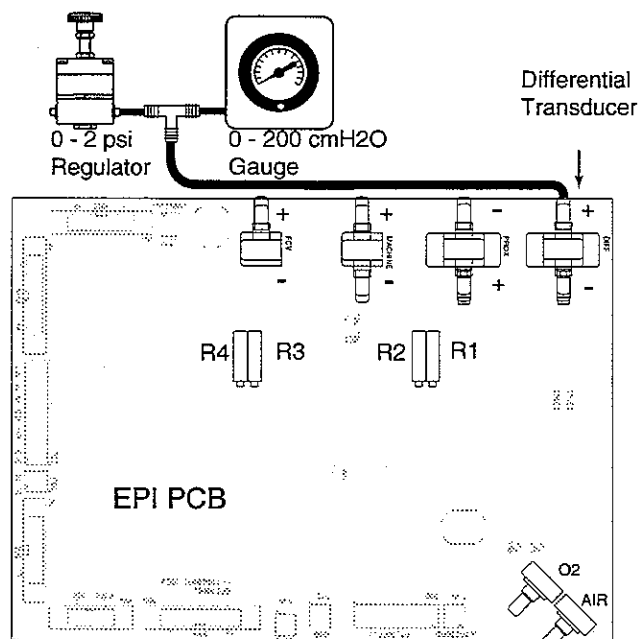

Figure 5-4
7. Connect the Differential Transducer as shown in Figure 5-4 and apply 40 ± 5 cmH₂O pressure.
11. Connect the Differential Transducer as shown in Figure 5-4 except to the opposite port (negative) and apply 95 ± 5 cmH₂O pressure.